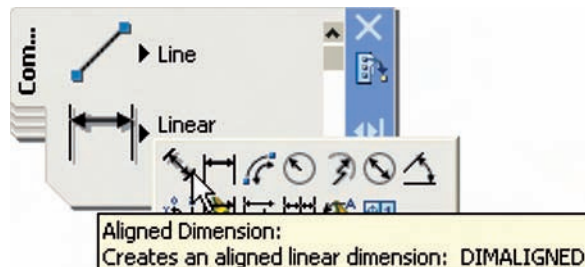

Fig. 6.5 The **Aligned Dimension** tool icon
2. *Left-click* the **Aligned Dimension** tool icon (Fig. 6.5) and dimension the outline. The prompts and replies are similar to the first example.